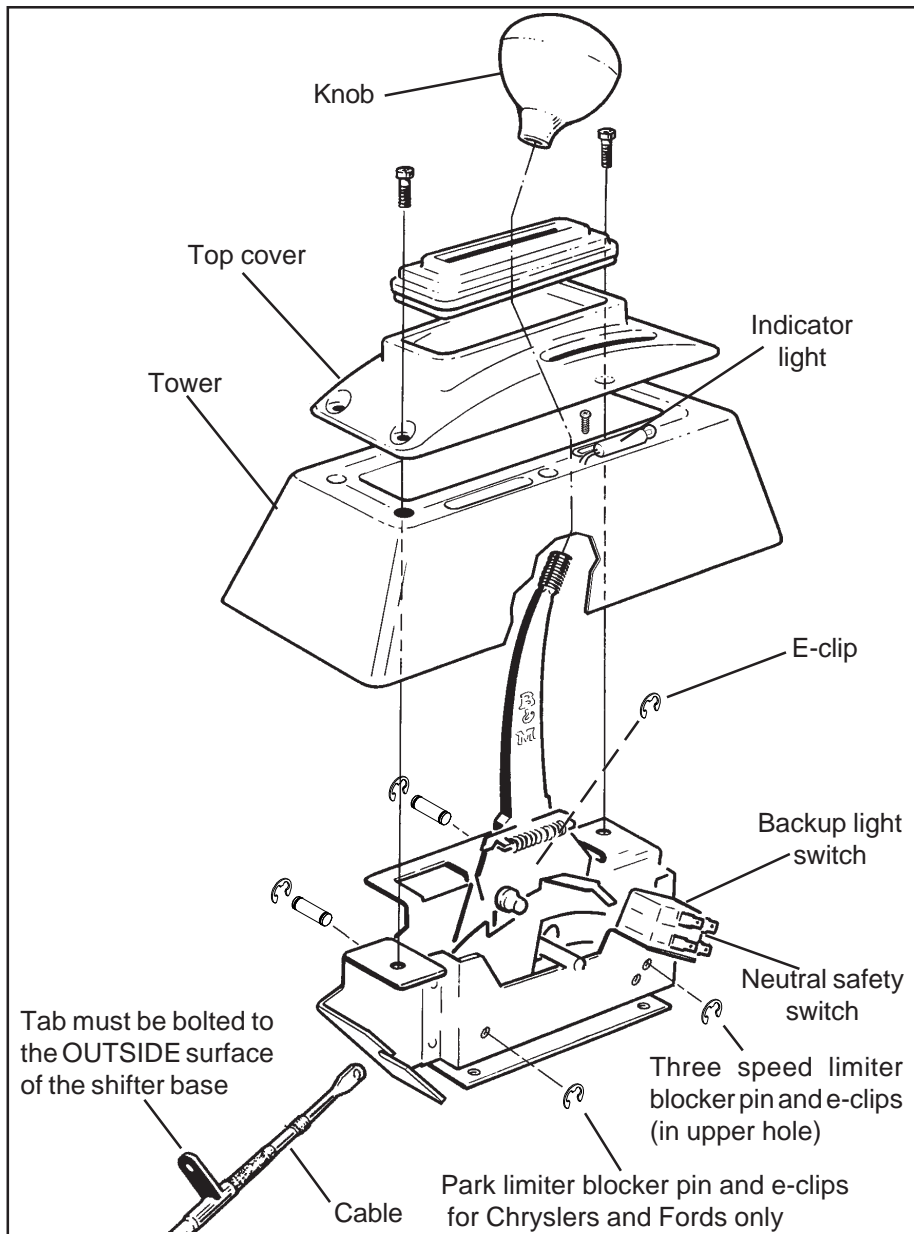

Figure 1
To use this shifter with a GM four speed automatic transmission, you will need to remove the three speed limiter blocker pin and the two e-clips (**See Figure 1**). For the Ford AOD four speed transmissions do **not** remove this blocker pin.
To use this shifter with a Ford or Chrysler automatic transmission, install the blocker pin and the two e-clips (**See Figure 1**). This limiter limits the travel of the shifter when it is shifted into Park, so that it does not stretch the cable.
NOTE: If you are installing this shifter with a GM four speed automatic transmission, you must remove the three speed limiter blocker pin and the e-clips indicated in **Figure 1**. Removing this blocker pin gives the shifter four forward positions rather than three. For Ford AOD four speed automatic transmissions and Chrysler A-500 and A-518 four speed automatic transmissions do **not** remove this blocker pin, since these transmissions have only three forward positions. Also do **not** remove the blocker pin and the e-clips for any three speed automatic transmissions. (The three speed limiter blocker pin goes in the upper of the two holes at the rear of the shifter).
the Park limiter blocker pin and the e-clips as also indicated in **Figure 1**. This limiter limits the shifter travel into the Park position, since Ford and Chrysler transmissions have less travel between Reverse and Park than GM transmissions do.
STEP 5. Install the cable on the shifter as shown in **Figure 1**. The cable attachment tab must be bolted to the outside surface of the shifter base using the supplied 1/4" X 1/2" hex bolt, lock washer and nut. Put the end of the indicator link on the cable pin outside of the shifter cable. Install the e-clip to secure the cable.
STEP 6. Install the backup light switch and the neutral safety switch in place on the shifter mechanism. Install them using the two supplied #4-40 screws, nuts and lock washers, as shown in **Figure 1**. If necessary, bend the fingers slightly so that they engage the slots. **Beware**, overtightening the switch attachment screws will crack the switch housings. Adjust the switches so that the neutral safety switch (the lower
STEP 11. If you have a four speed automatic transmission, be sure that you have removed the three speed limiter blocker pin shown in **Figure 1**. If you have a three speed automatic transmission, the three speed limiter blocker pin and e-clips should be installed. The Park limiter blocker pin and e-clips should not be installed for any GM transmission.
tion off the wires and install the slip-on terminals supplied in the kit. Crimp the terminals onto the wires using a crimping tool or pliers. Connect the neutral safety wires to the **LOWER** switch and the backup light wires to the **UPPER** switch (**See Figure 1**). Tape the terminal connections and all other connections to prevent shorts.
STEP 17. Be sure that the Park limiter blocker pin and the three speed limiter blocker pin are both installed as shown in Figure 1. The Park limiter will prevent the shifter from additional travel beyond the Ford Park position. (GM transmissions have greater travel between Neutral and Park than Ford transmissions do). The three speed limiter blocker pin is required because all Ford three and four speed automatic transmissions have only three forward gear positions, even the four speed AOD.
reverse light switches. Reroute the wires to the **B&M QuickSilver Shifter**. Strip $\frac{1}{4}$ " of insulation off the wires and install the supplied slip-on terminals. Crimp the terminals onto the wires using a crimping tool or pliers. Connect the neutral safety wires to the **LOWER** switch and the reverse light wires to the **UPPER** switch (See **Figure 1**). Tape the terminal connections to prevent shorts. Reconnect the battery ground cable, disconnect the coil wire and set the parking brake. Check the switch operation by attempting to start the motor in each shifter position. **The starter must crank only when the shifter is in the Park or Neutral position.** Check the backup light operation when the shifter is shifted to the Reverse position. Adjust the switches if required. Reconnect the coil wire. Go to **Step 25**.
STEP 22. Be sure that the Park limiter blocker pin and the three speed limiter blocker pin are both installed as shown in **Figure 1**. The Park limiter will prevent the shifter from additional travel beyond the Chrysler Park position. (GM transmissions have greater travel between Neutral and Park than Chrysler transmissions do). The three speed limiter blocker pin is required because all Chrysler three and four speed automatic transmission have only three forward gear positions, even the four speed A500 and A518.
'66-'68: The neutral safety switch will continue to function normally. It will not be necessary to hook up the neutral safety switch wires on the shifter. Disconnect the battery ground cable before wiring the backup light switch. Locate the original backup light switch on the steering column or the console shifter. Run these wires to the **UPPER** switch on the **B&M QuickSilver Shifter** (See **Figure 1**). Reconnect the ground wire and check the light for proper operation. Adjust the switches on the shifter if required.
STEP 27. Mount the indicator light on the tower (See **Figure 1**). The light socket can mount on the top or the bottom of the tower depending on the brightness desired. Mount the socket so the bulb is to rear of the tower and secure it using one 10-24 self-tapping screw. Do not overtighten as you may strip out the hole in the tower. Place the tower into position on the shifter. Connect one wire from the light socket to a good chassis ground. A shifter mounting bolt should be satisfactory. Run a length of wire from the vehicles instrument panel light circuit to the other wire from the light socket. Secure and tape all wires. Indicator light will work with the instrument panel lights.